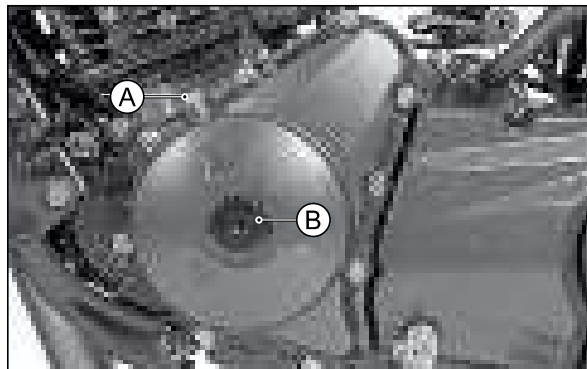

Fig. 3.78
- Remove plug TDC (A) along with the gasket. (Fig. 3.78)
- Remove plug crankshaft hole (B). (Fig. 3.78)